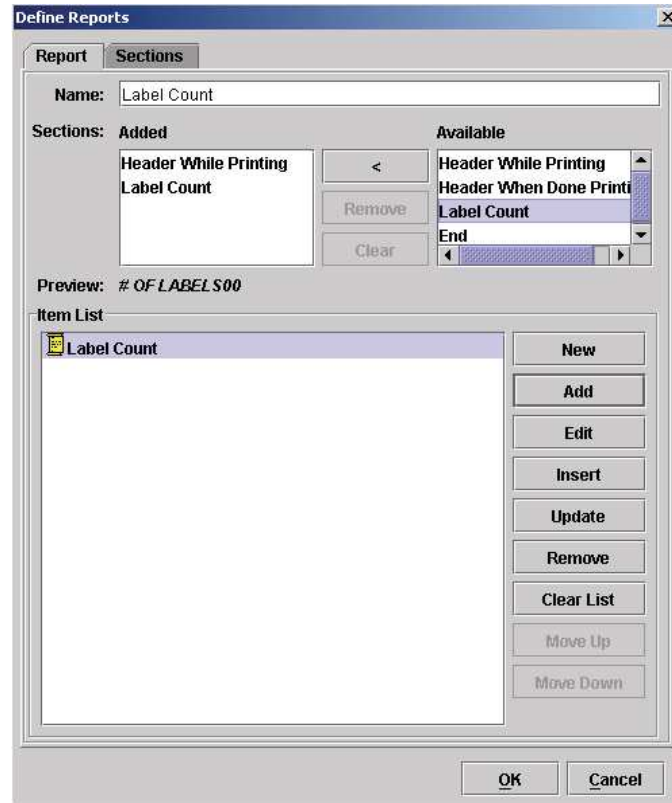

Figure 218 Adding Available Sections
7. Click the **Add** button. Label Count is added to the item list (Figure 218).